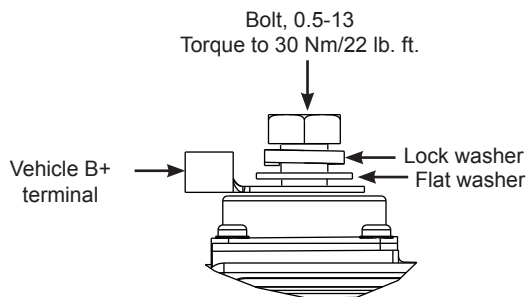

Figure 2: B+ Terminal Hardware Stacking Order
7. Connect vehicle B+ cable to alternator B+ terminal. Install hardware in stacking order shown in Figure 2. Torque B+ terminal bolts to 30 Nm/22 lb. ft.